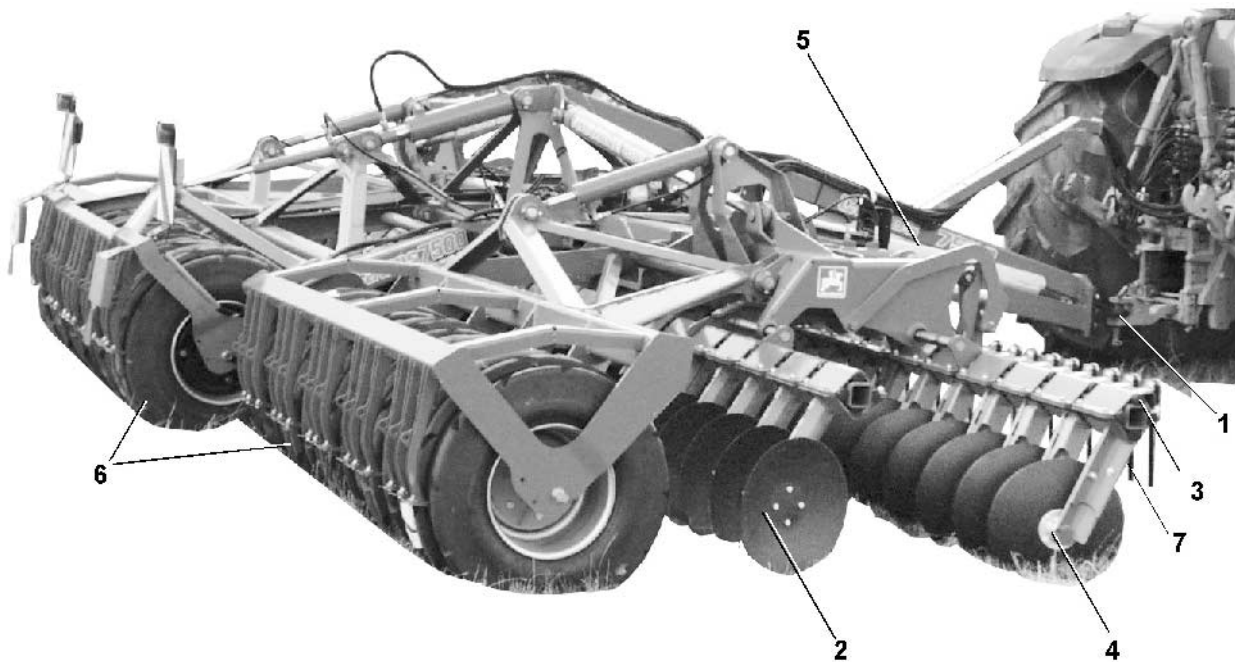

Fig. 11
The **Catros** is attached to the tractor by means of a swinging drawbar (Fig. 11/1).
Staggered arrangement of the blockage free concave discs (Fig. 11/2) with a cutting angle of 17° front and 14° rear seen in driving direction.
The bearing of the concave discs (Fig. 11/4) consists of a 2 row angular contact ball bearing with face seal and oil filling and is free of maintenance..
- The slide unit (Fig. 11/5) adjusts the stagger of the two disc gangs for working depth and speed. Adjustment via the AMAZONE square eccentric pins.